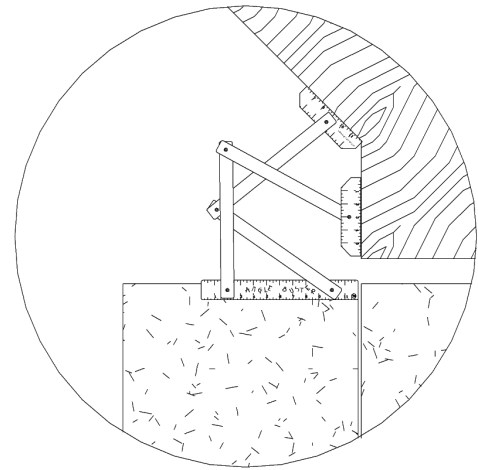

Fig. 1
6. The arm on one end of the "ANGLE BUSTER" may need to overlap the arm on the other end to find the desired angles. (See figure 1).